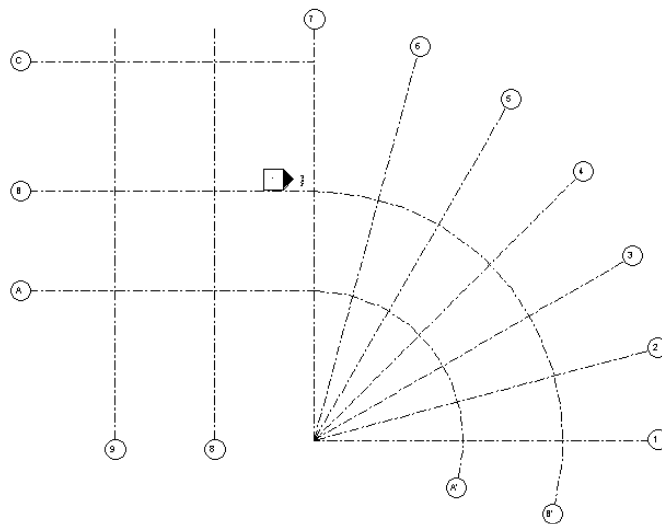

Figure 3-65 The grid lines with new names
4. To rename all grids in the project, select them individually and repeat steps 2 and 3. Refer to Figure 3-65 for new names of the grids.